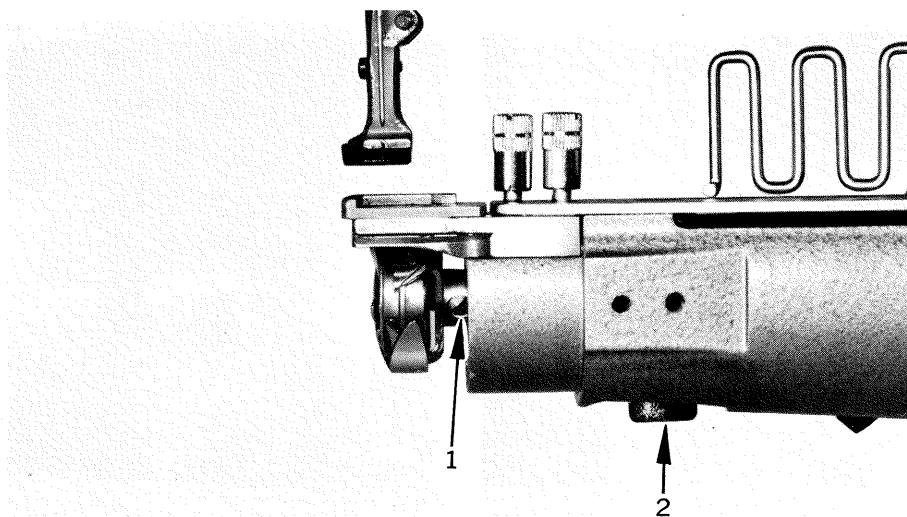

Fig. 19
2. Adjust the feed motion to the maximum and loosen the screw (2, Fig. 19) with a hexagon wrench (standard accessories).
4. Securely tighten the screw (2, Fig. 19)
* **TIMING AND THE CLEARANCE ADJUSTMENT (Fig. 19)**
1. Loosen the two screws (1).